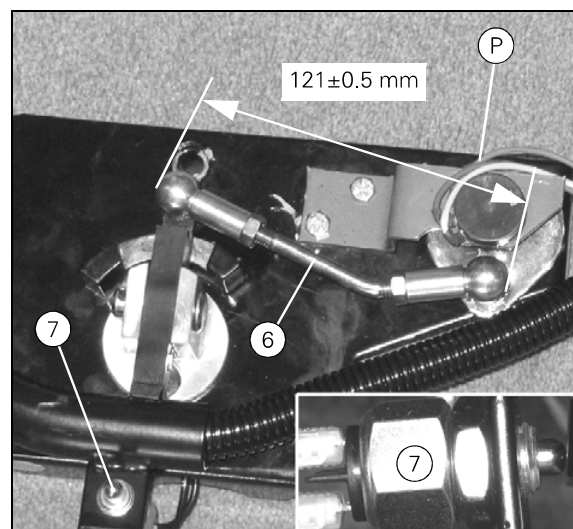

Fig. 7
- If the regulating range is outside the specified values, the range can be adjusted by altering the length of the connecting rod (Fig. 7).